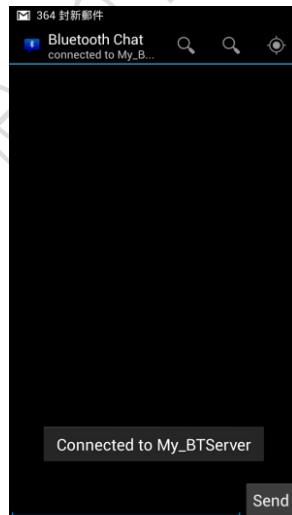

Figure 26 Connection to the LinkIt ONE Bluetooth server confirmed
- 2 Select **My_BTServer** and **Connected to My_BTServer** will display, see Figure 26.